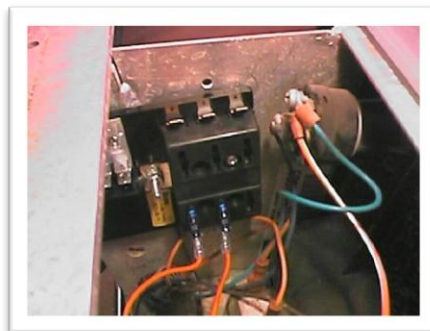

Figure 1 Fuse Panel
8. Set the wiring harness in the front of the vehicle, and then mount the fuse panel on the vehicle frame, behind the on/off power switch using the two machine screws and lock nuts (Figure 1).